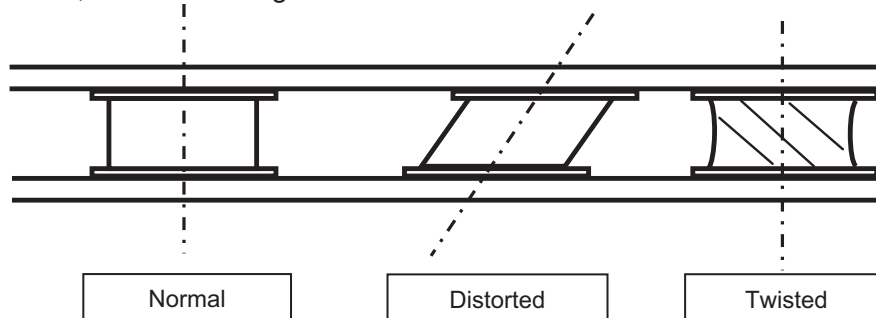

Figure 5 – Installation example of rubber vibration isolator
- (1) If you use vibration isolation rubber during the installation, ensure that the upper and lower sides of the hole are positioned in a vertical line and that no part of the rubber is twisted or distorted, as shown in Figure 5.